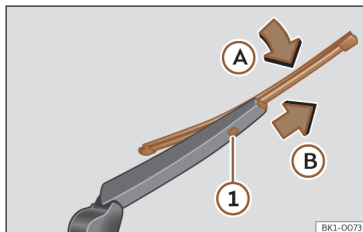

Fig. 174 Changing the rear wiper blade
- Rotate the blade lightly >>> Fig. 174 (arrow A).
- Hold down the release button ① while gently pulling the blade in the direction of arrow B.
- Insert a new blade of the **same length and type** in the rear wiper arm in the opposite direction to the arrow B until button ① hooks into place.